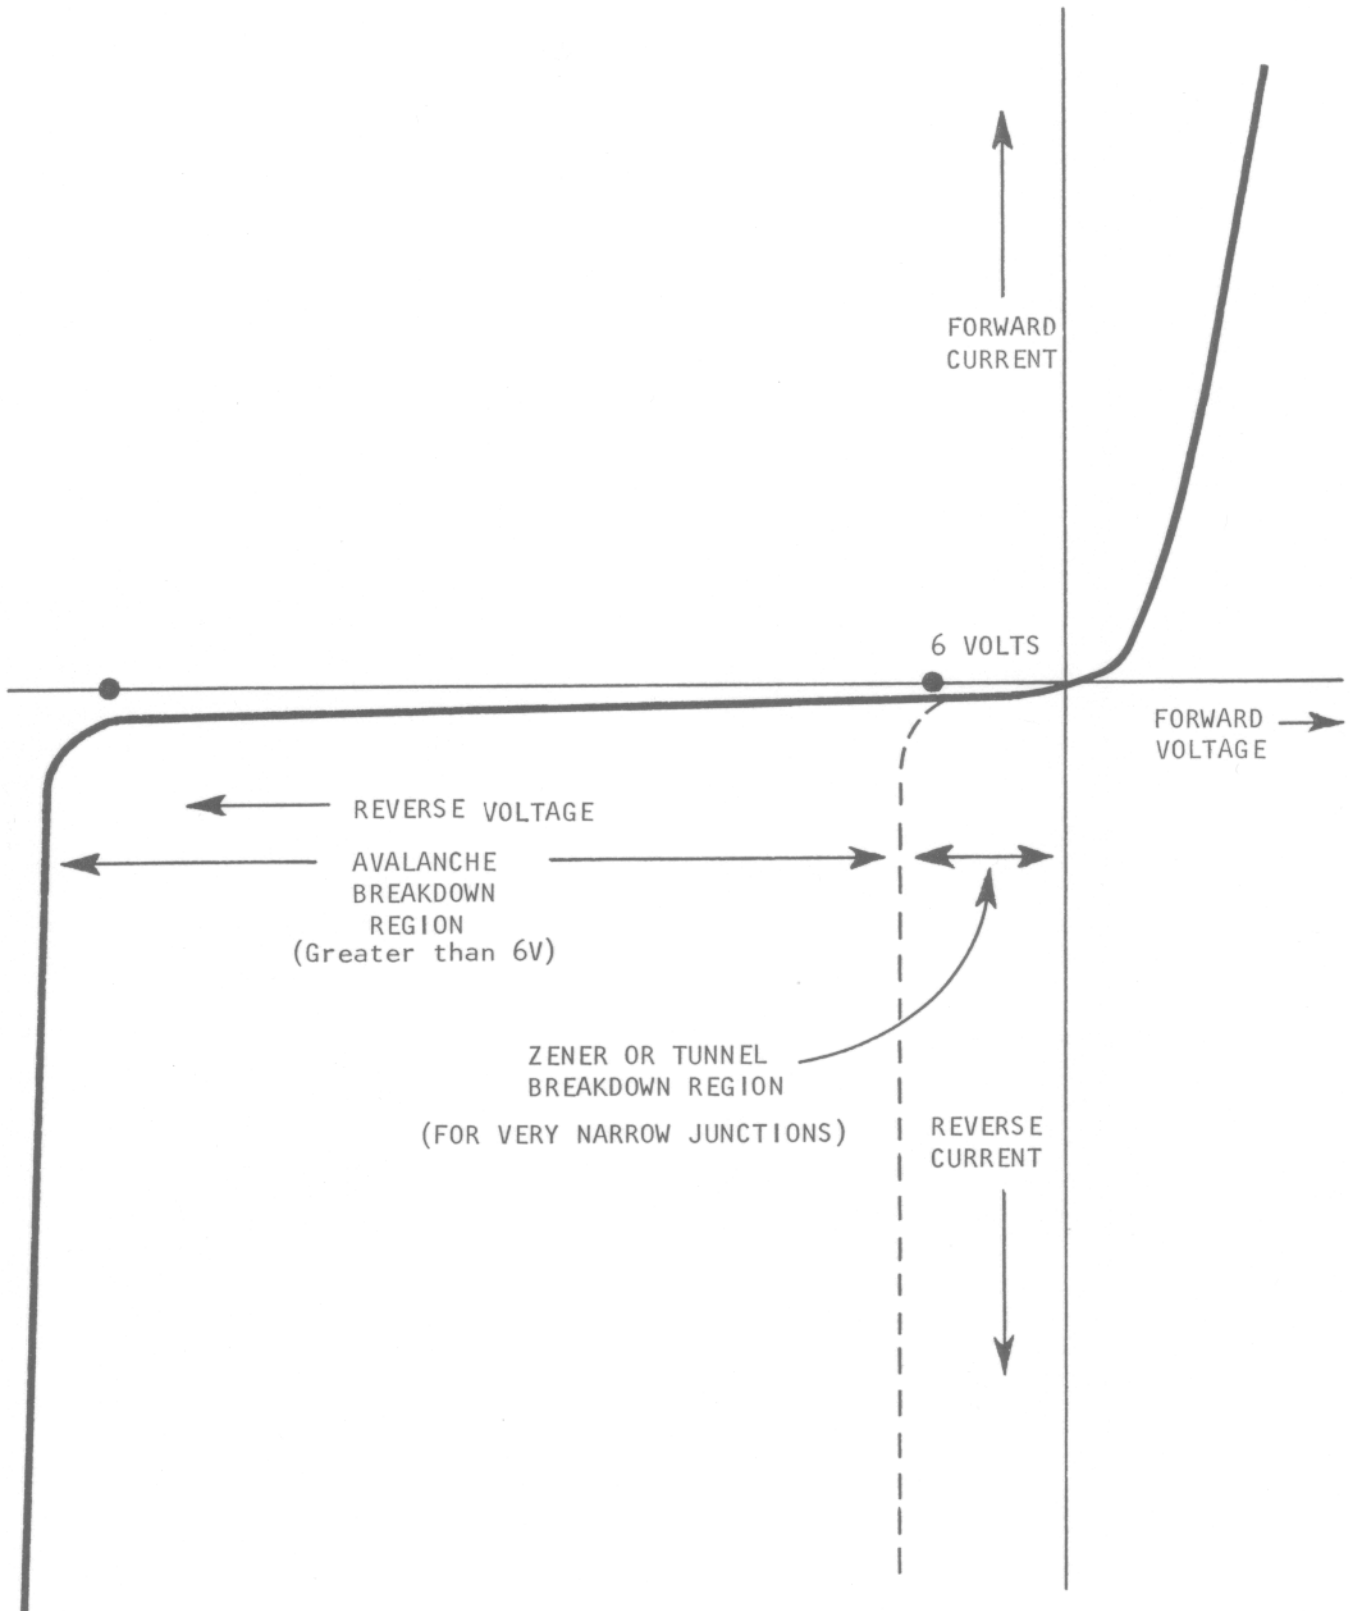

FIGURE 23
23.12 Diodes in avalanche breakdown have greater than 6 volts across their terminals and diodes in _____ breakdown have less than 6 volts across their terminals as shown in figure 23.